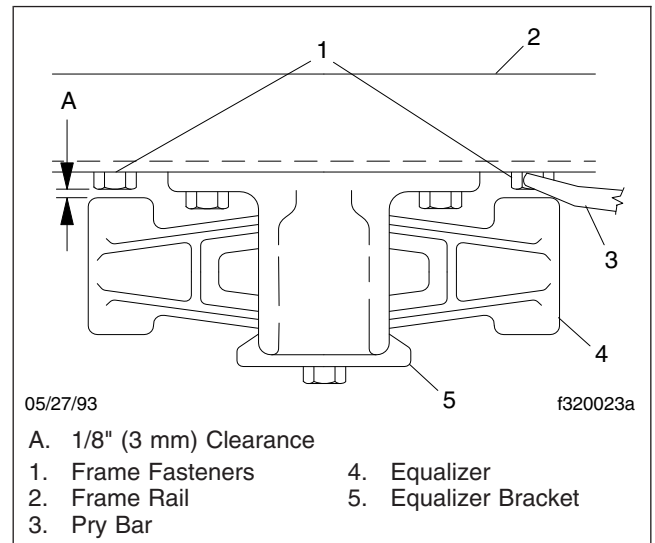

Fig. 5, Top View of the Equalizer
- With the vehicle unloaded, attempt to move the equalizer side to side, using a pry bar between the equalizer and frame rail. Apply hand pressure only. See Fig. 5. If clearance between the equalizer assembly and any frame component or fastener is less than 1/8 inch (3 mm), replace the equalizer bushings. See **Group 32** of the *122SD and Coronado Workshop Manual* for instructions.